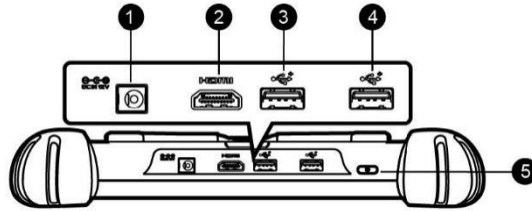

Figure 2-4 MaxiSys Tablet, Top View
2. Mini USB (Universal Serial Bus) Port (it cannot be used at the same time with the No. 4 USB Port in Figure 2-4 MaxiSys Tablet, Top View)